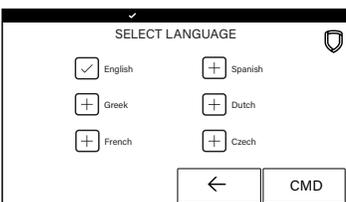

Figure 15: Select Language
**Note:** The keypad does not translate information from the panel that displays on the keypad screen. See Figure 15.